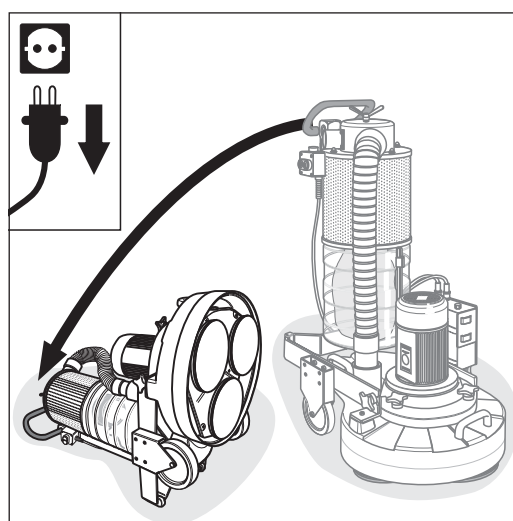
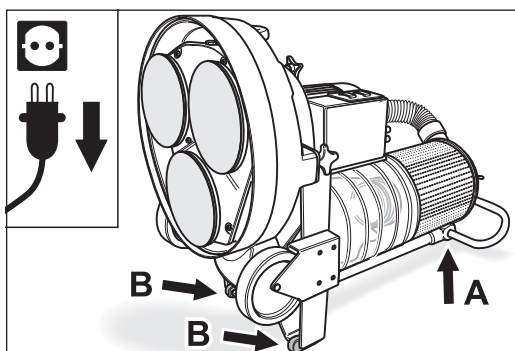

Fig. 25 Carefully tilt the machine backwards.
Fig. 26 Make sure that the machine gets to rest on the guide tube (**A**) and the two protective rubbers (**B**). **Make sure the machine is in a safe position!**
- 3 While holding on to the handle, carefully tilt the machine backwards into a horizontal position (fig. 25). Make sure that the machine gets to rest on the guide tube (fig. 26, **A**) and the two protective rubbers (fig. 26, **B**). **Make sure the machine is in a safe position!** Now the sanding plates are accessible from the front.